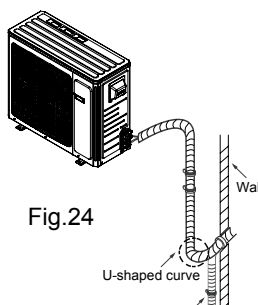

Fig.24
(1) The pipes should be placed along the wall, bent reasonably and hidden possibly. Min. semidiameter of bending the pipe is 3 15/16 inch.
(2) If the outdoor unit is higher than the wall hole, you must set a U-shaped curve in the pipe before pipe goes into the room, in order to prevent rain from getting into the room.(As show in Fig.24)